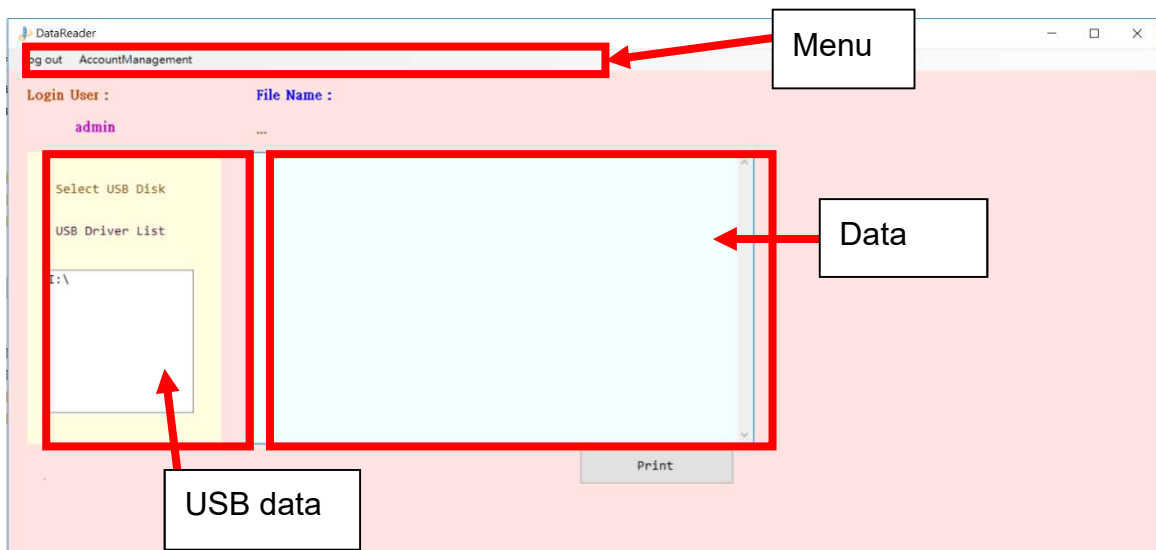

Figure 70
- 3 Click “ OK ” to get Figure 70. There are 3 main areas: Menu, USB data, and Data area.